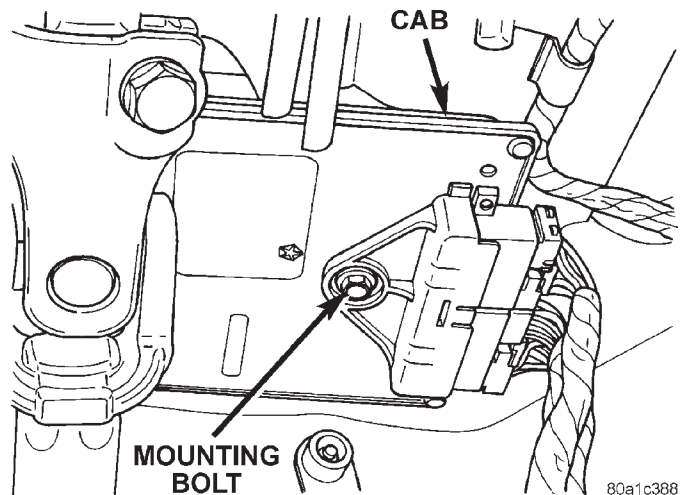

Fig. 5 Controller Antilock Brakes
(1) Remove negative battery terminal.
(2) Remove the harness connector from the CAB located underneath the instrument panel (Fig. 5).
(3) Remove mounting bolt and remove the CAB.